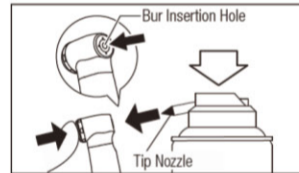

Fig. 16
- Lubricate the chuck directly where the bur is inserted (Fig. 16).